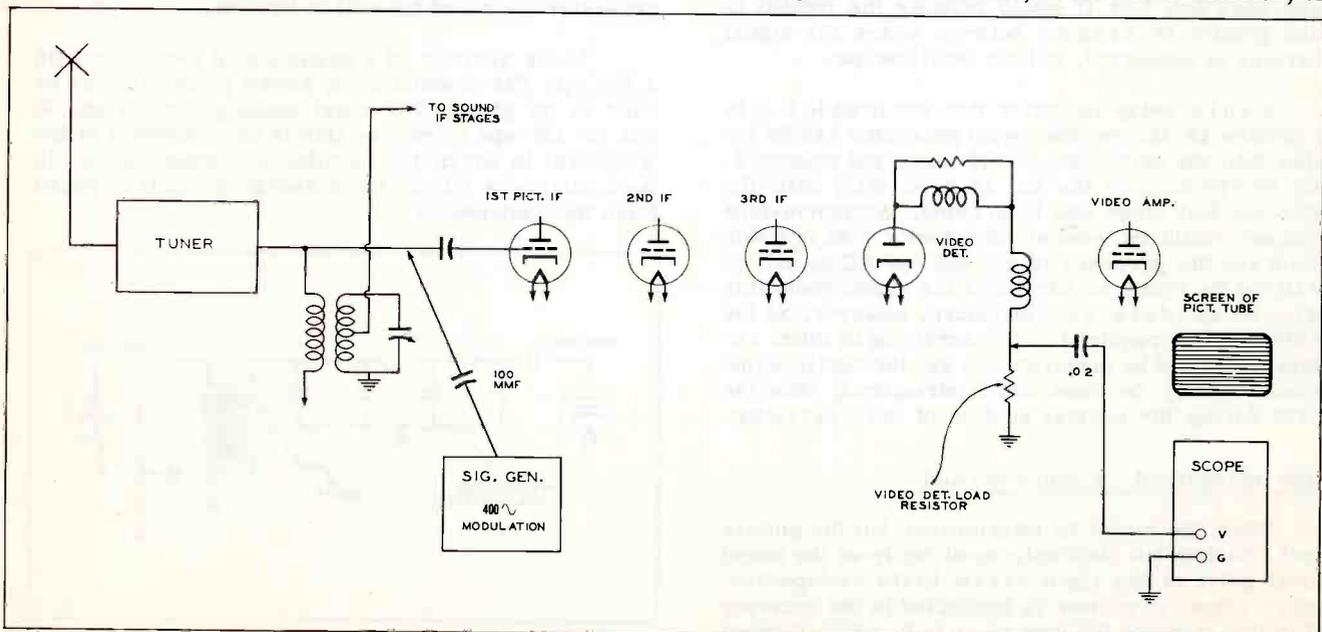

Figure 1
in the video amplifier circuits following the detector. In order to get a general localization, a signal generator and oscilloscope can be used as shown in Figure 1. The signal generator can be of the single-signal type with internal modulation. This is placed at the output of the tuner, before the coupling capacitor or transformer secondary of the first picture IF tube. If the sound takeoff is after the first or second IF stage, the signal generator can be attached at these places.
The signal generator should be set to the IF picture frequency for the receiver under test, and an oscilloscope should be placed across the video detector load resistor as shown in Figure 1. Turn on the 400 cycle internal modulation (AM) of the signal generator and set the oscilloscope to receive the 400 cycle sine-wave signal developed across the detector load resistor. Adjust contrast control and signal generator frequency slightly until sound bars appear on the picture tube screen.